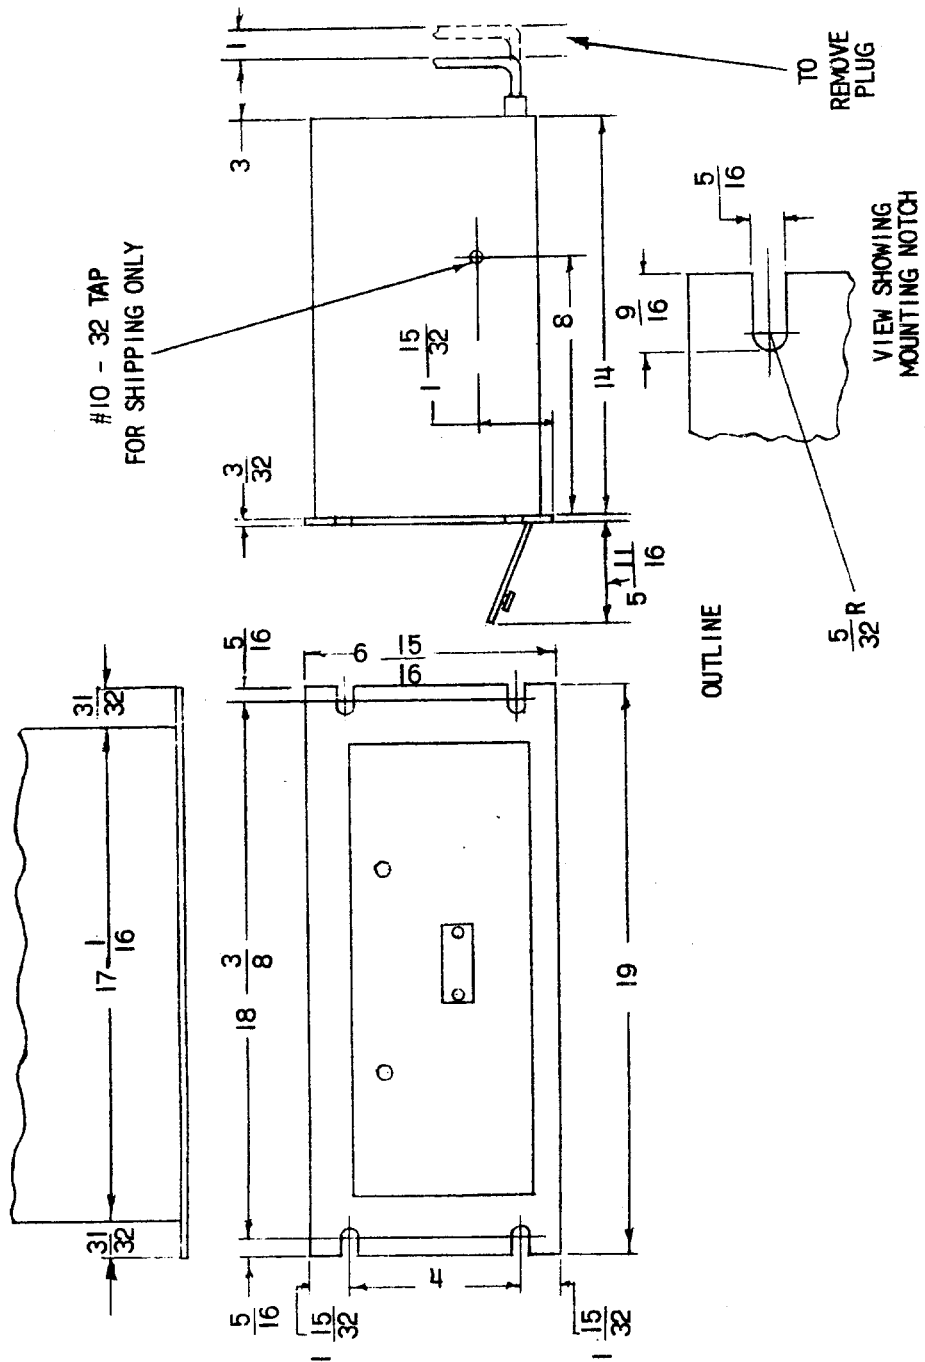
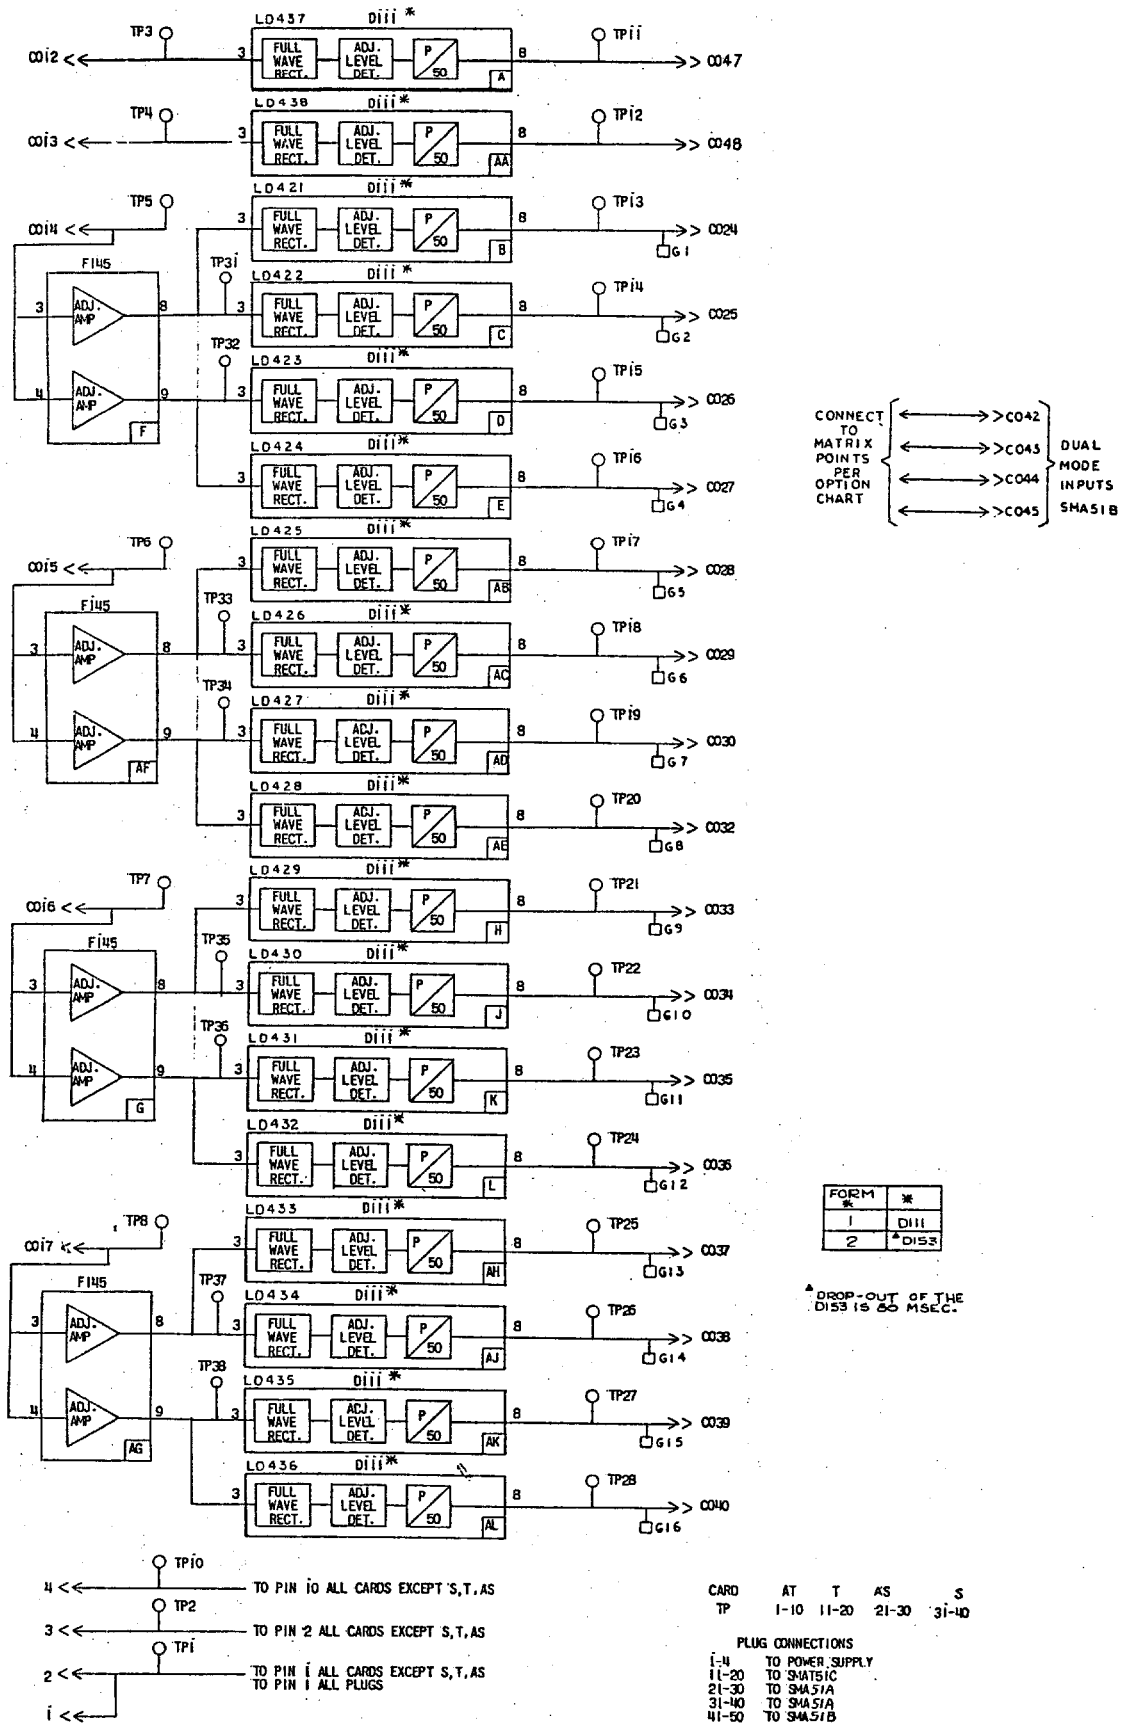
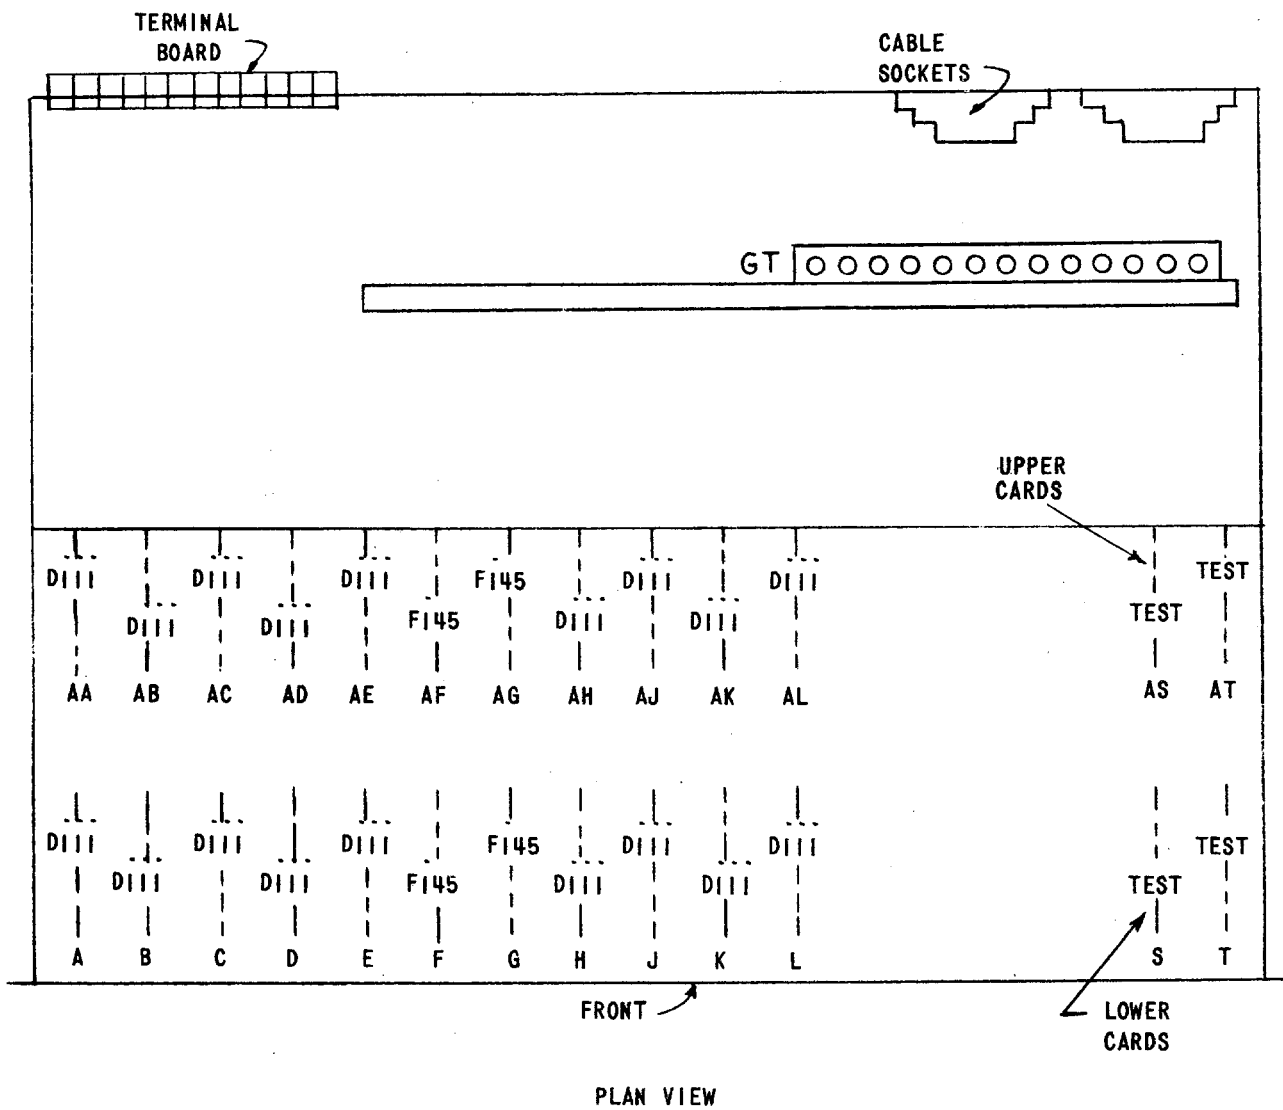

Fig. 1 (0227A2037-0) Outline and Mounting Dimensions
Fig. 2 (0167C8714-4) Internal Connections for the Type SMF51A Relay
Fig. 3 (0257A6277-1) Component Location Diagram SMF51A
* The SMF51A relay is packaged in a four rack unit enclosed metal case (one rack unit equals 1.75 inches high). The relay is suitable for mounting in a 19 inch rack. The mounting and outline dimensions are shown in Fig. 1. The internal connections for the SMF51A relay are shown in Fig. 2, and the component and card locations are shown in Fig. 3.
* The SMF51A relay is packaged in a four rack unit enclosed metal case with a hinged front cover and a removable top cover (one rack unit = 1.75 inches high). The outline and mounting dimensions of the case and the physical location of the components are shown in Figs. 1 and 3 respectively.
Operation of the SMF51A unit can be checked by observing the signals at the forty test points (TP1 to TP40), or by observing the output functions in the associated Type SMAT tripping relay. The test points are located on four test cards in positions S, T, AS and AT, and are numbered 1 to 40. TP1 is the reference bus for the logic circuit; TP10 is at +15 VDC, and TP2 is at -15 VDC. The remaining points are located at various strategic points throughout the logic as shown on the internal connection diagram Fig. 1. Test point voltages can be monitored with a portable high impedance voltmeter, the test lamps in the SMAT51B, or an oscilloscope.